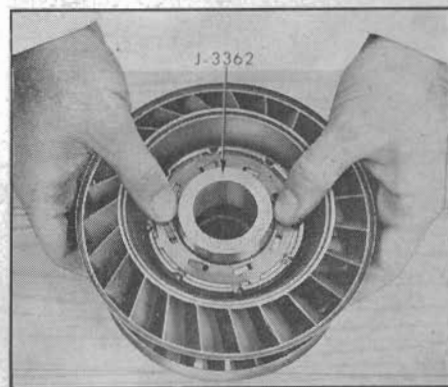

Fig. 17 Use of loading tool to assemble stators. 1950-52
7. Carefully install stator loading tool J-3362, Fig. 17, on stator race and install primary stator over tool and onto stator race with thrust washer down.